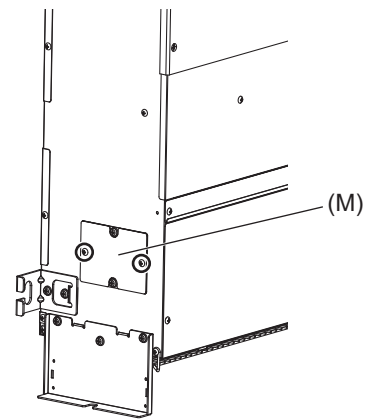

Fig.14
- (1) Remove the two fixing screws on the bearing cover (M) to remove it. (Fig. 14)